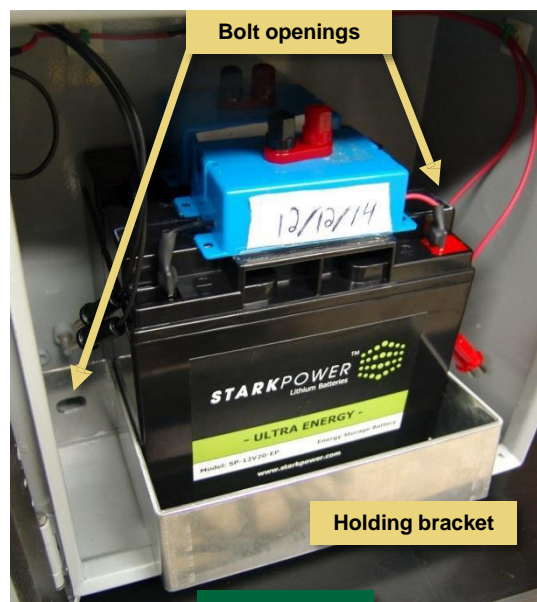

Figure 31
5. Loosen the bolts on the holding bracket by turning them counterclockwise using a 9/16-inch socket driver (not provided) until the bracket is loose enough for the batteries to be lifted out of the case (Figure 31).
9. Place the two fully charged batteries into the battery case, and place the holding bracket around the bottom of the batteries, as shown in Figure 31.